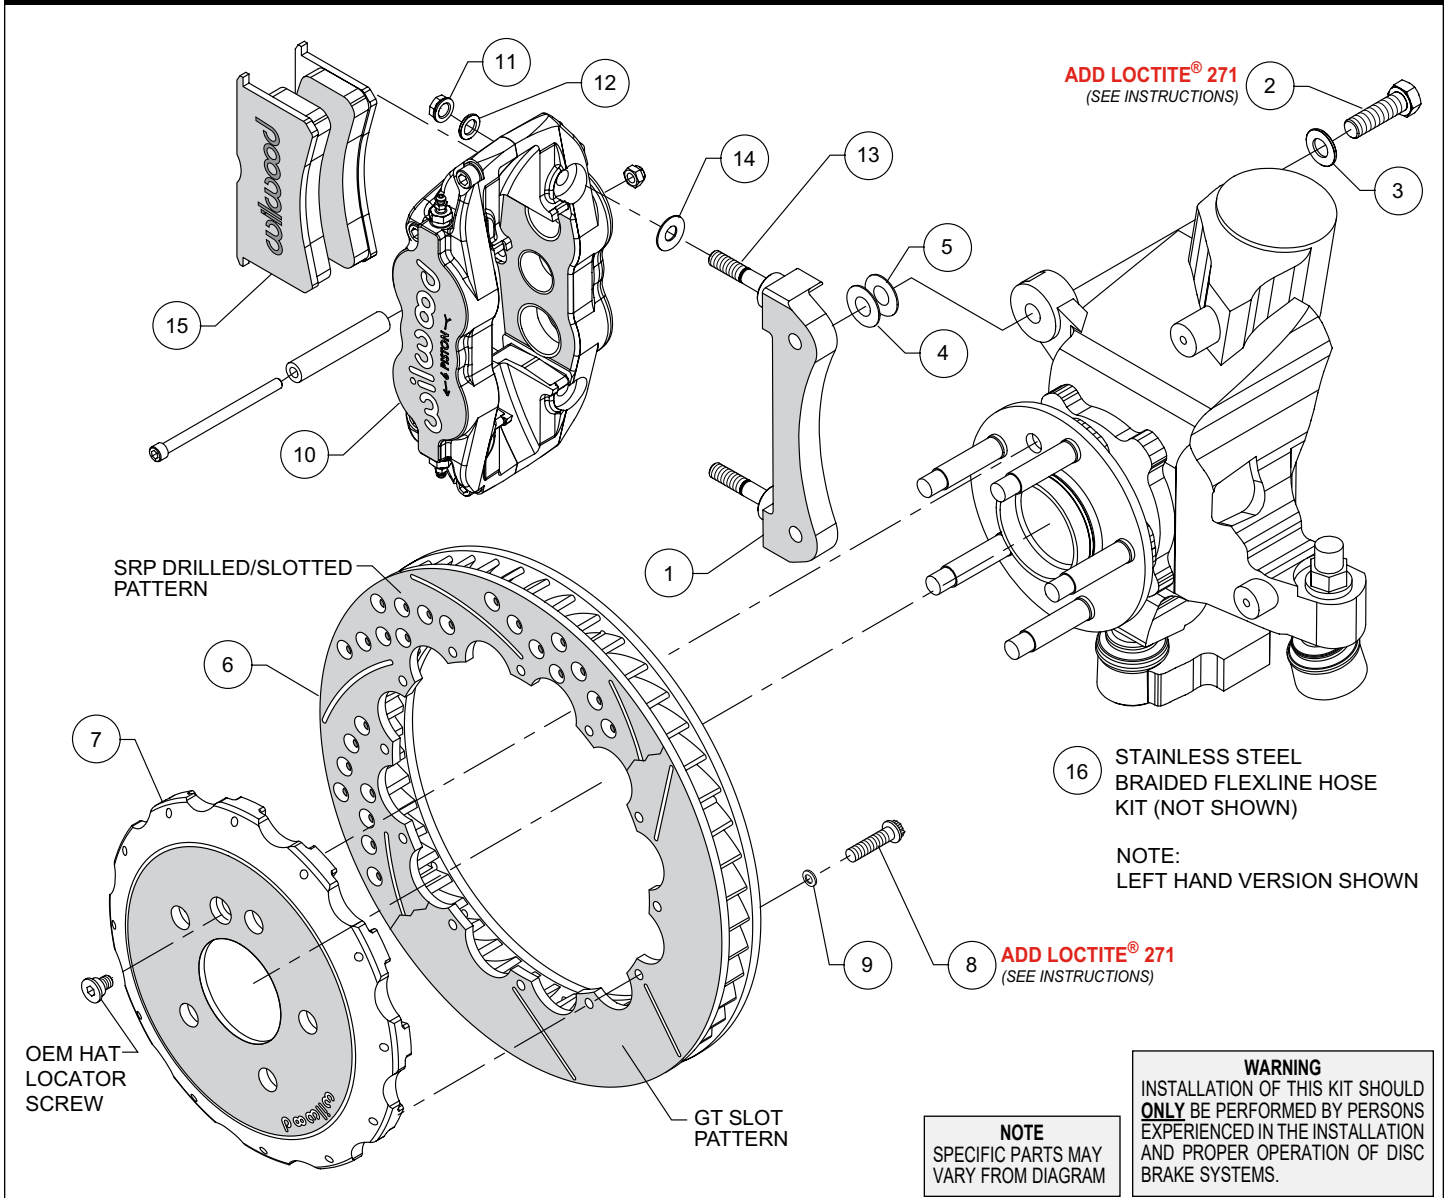
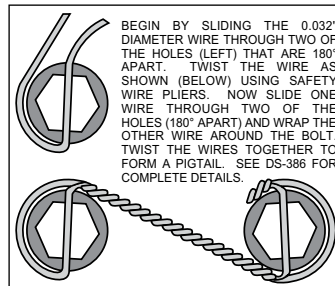

Figure 1. Typical Installation Configuration
Figure 3. Safety Wire Diagram
NOTE: Numbers in parenthesis refer to the parts list and Figure 1 on the preceding pages.
- The caliper mount bracket (1) should initially be installed with clean, dry threads on the mounting bolts. Orient the bracket as shown in Figure 1 and Photo 1, and install using bolts (2) and washers (3). Initially place one .033 thick shim (4) on each bolt between the bracket and upright, Figure 1. Temporarily tighten the mounting bolts. **NOTE:** The bracket must fit squarely against the mount bosses on the upright. Inspect for interference from casting irregularities, machining ridges, burrs, etc. Later, after the caliper alignment has been checked, the mount bolts will be secured using red *Loctite*® 271.
- Orient the rotor (6) and the hat (7) as shown in Figure 1 and Photo 2. Attach rotor to hat using bolts (8) and washers (9). Apply red *Loctite*® 271 to the bolt threads and torque to 155 in-lb using a criss-cross pattern. For an added measure of security, the bolts may be safety wired using standard 0.032 inch diameter stainless steel safety wire as shown in Figure 3. Please refer to Wilwood's data sheet DS-386 (available at www.wilwood.com/Pdf/DataSheets/ds386.pdf) for complete safety wire installation instructions.
- **NOTE:** This kit contains distinct right and left hand calipers that must be mounted in a specific direction, as described below. Initially place one .035" thick shim (14) on each stud (13) as shown in Figure 1 and Photo 4. Mount the caliper (10) onto the bracket (1) using lock nuts (11) and washers (12), Figure 1. Ensure that the caliper is mounted so that the largest pistons are at the rotor exit end of the caliper, in relation to the direction of rotor rotation. Temporarily tighten the lock nuts and view the rotor through the top opening of the caliper. The rotor should be centered in the caliper, Photo 5. If not, adjust by adding or subtracting shims (4 and/or 5) between the bracket and the upright. Always use the same amount of shims on each of the two mounting bolts. Once the caliper alignment is correct, remove the bracket mounting bolts (2) one at a time, apply red *Loctite*® 271 to the threads, and torque to 60 ft-lb.